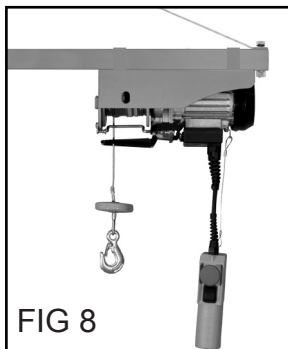

FIG 8
9. Mount your electric hoist as shown in the electric hoist manual. Fig 8. If mounting the electric winch to the extension arm, the mounting plates(20) must be used.